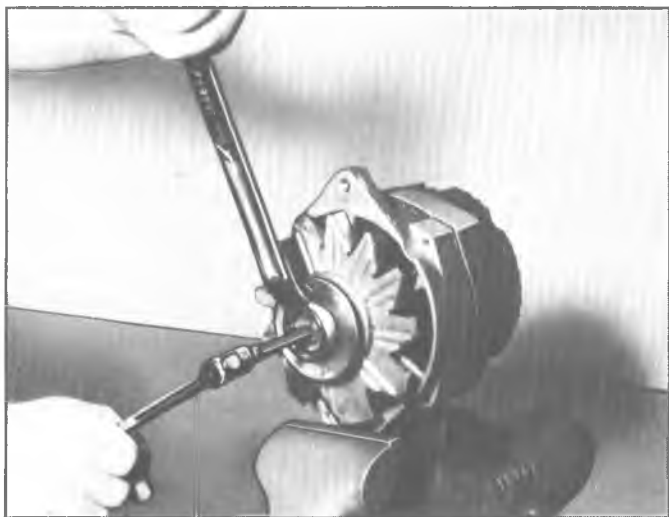

Fig. 4C—Pulley Removal
1. Place 15/16" box wrench on retaining nut and insert a 5/16" allen wrench into shaft to hold shaft while removing nut (fig. 4C).